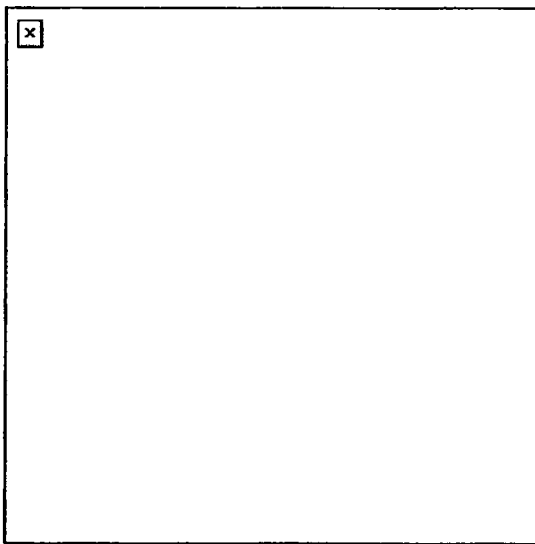

Figure 19. Attachment of the feed slide assembly.
- (1) Position the alignment guide assembly so that the pin is lined up with the slot in the feeder wall.
- (2) Hold the alignment guide against the front wall and slide the alignment guide into the receiver until it clicks.
- e. Attach the feed tray and feed slide assembly (Figure 19).